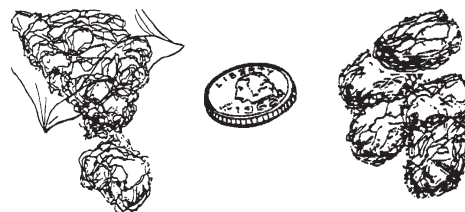

Figure 64—Glowing Ember Separation
3. Separate the glowing embers from the larger bag into pieces about the size of a quarter, as shown in **Figure 64**. Mix the glowing embers with the bag of platinum embers also provided with the fireplace. Keep the pieces fluffed, not matted. Distribute these pieces over the burner as shown in **Figure 65**. Do not use more glowing embers than necessary. When properly positioned, the glowing embers will cover approximately 75% of the burner for natural gas applications. For propane gas, do not place any glowing embers on the main ports.